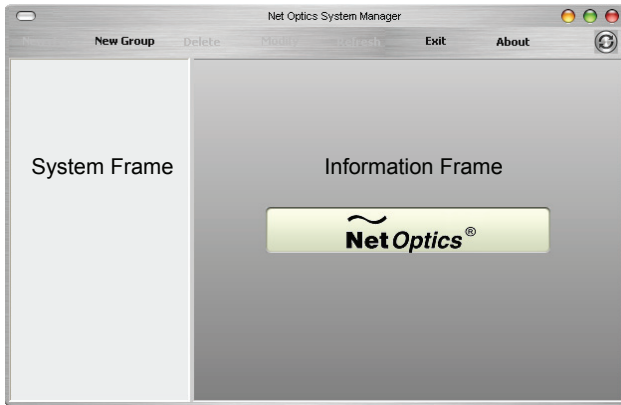

Figure 25: Initial window
1. Double click the System Manager icon on your PC desktop. The initial window, shown in Figure 25, will not show any iTaps.